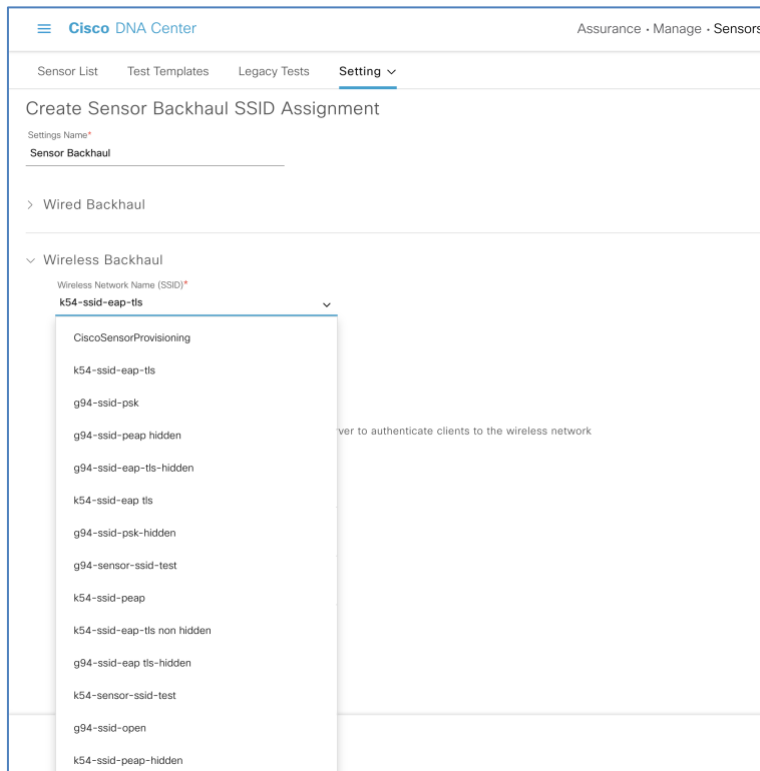

Figure 39. Configuring a wireless backhaul profile and selecting a SSID
3. **Wireless Backhaul:** Select an SSID from the drop down menu and ensure that the selected SSID matches an SSID that is being broadcasted within the proximity of the sensors being claimed with this profile. (**Figure 39.**)